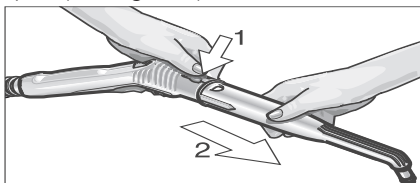

Figure 5: Detaching the accessory parts
- To detach the accessory parts, press the unlocking button (C3 or G3), and pull the items apart (see Figure 5).